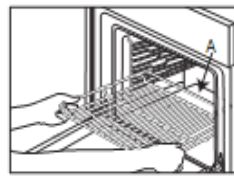
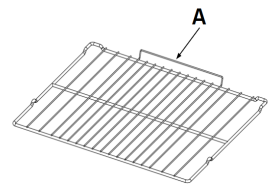

Fig. 1A
Fig. 1B
1. Insert the wire shelf horizontally, with the raised part "A" upwards (Fig. 1A, Fig. 1B)